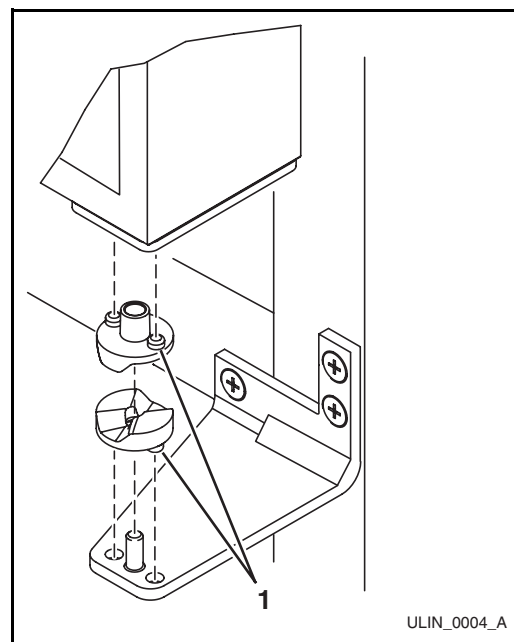

Figure 16
5. After adjustment is complete, remove the door closers from the bottom hinge, clean thoroughly and apply petroleum jelly to the mating surfaces of the closers. Be sure that bosses on closers (**Figure 16, 1**) align with holes in the door and bottom cabinet hinge plates. Mount door and install top hinge pivot pin.